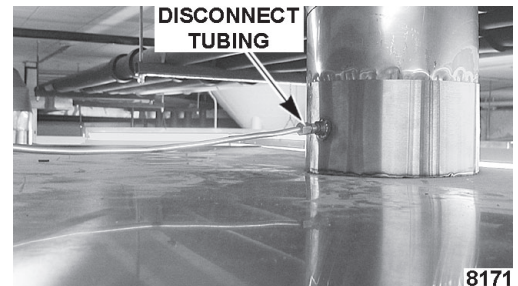

Fig. 14
- B. Gain access to the top of the oven and disconnect tubing (Fig. 14) from exhaust vent collar. Burner should go out.